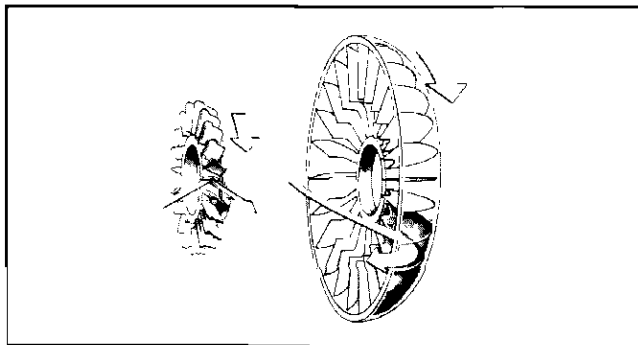

Fig. 8 Torus Operation—Step 3
- Step 3. The oil flow rushing out of the curved blades of the torque multiplier is then directed back to the drive member in such a way as to impart an additional driving force to the back side of the drive member vanes (Fig. 8). This additional driving force plus the energy added to the flowing oil from engine power, allows an even